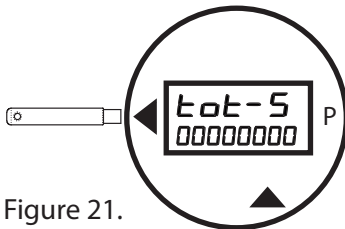

Figure 21.
- Pass the wand over the **◀** to move and activate each digit (Figure 21).